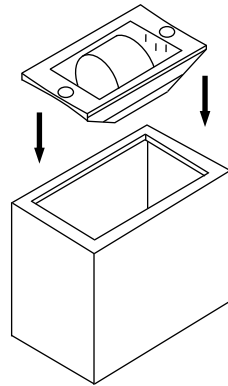

Fig 5
2. Place the Gruppo Incasso into the cut out in the cupboard (Fig 5).